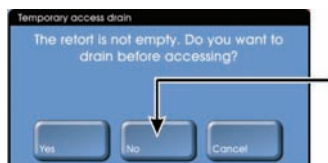

Figure 81: “Temporary access drain” dialog box with No option
2. The “Temporary access drain” dialog box will now appear; select the **No** option to access the retort without draining the reagent (see Figure 81).